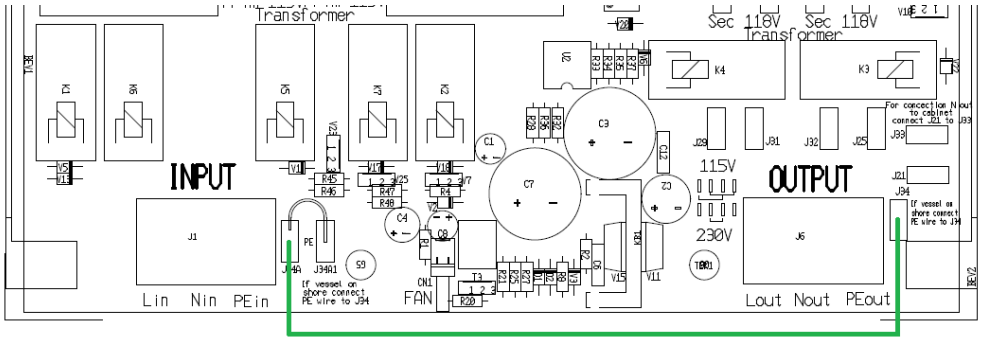

Figure 4a: Input earth connection, Auto 115/230V model
- If the boat is floating, connect the PE wire coming from the input PE terminal J34A to male push-on connector J34A1 (wire shown in black on fig 4a). Now input and output are isolated from each other.
- If the boat is on shore (winter period or maintenance), the PE conductor in the boat must be connected directly to the input PE, for safety reasons. This is achieved by connecting the PE wire coming from the input PE terminal J34A1 to male push-on connector J34 (wire shown in green or grey on fig 4a).